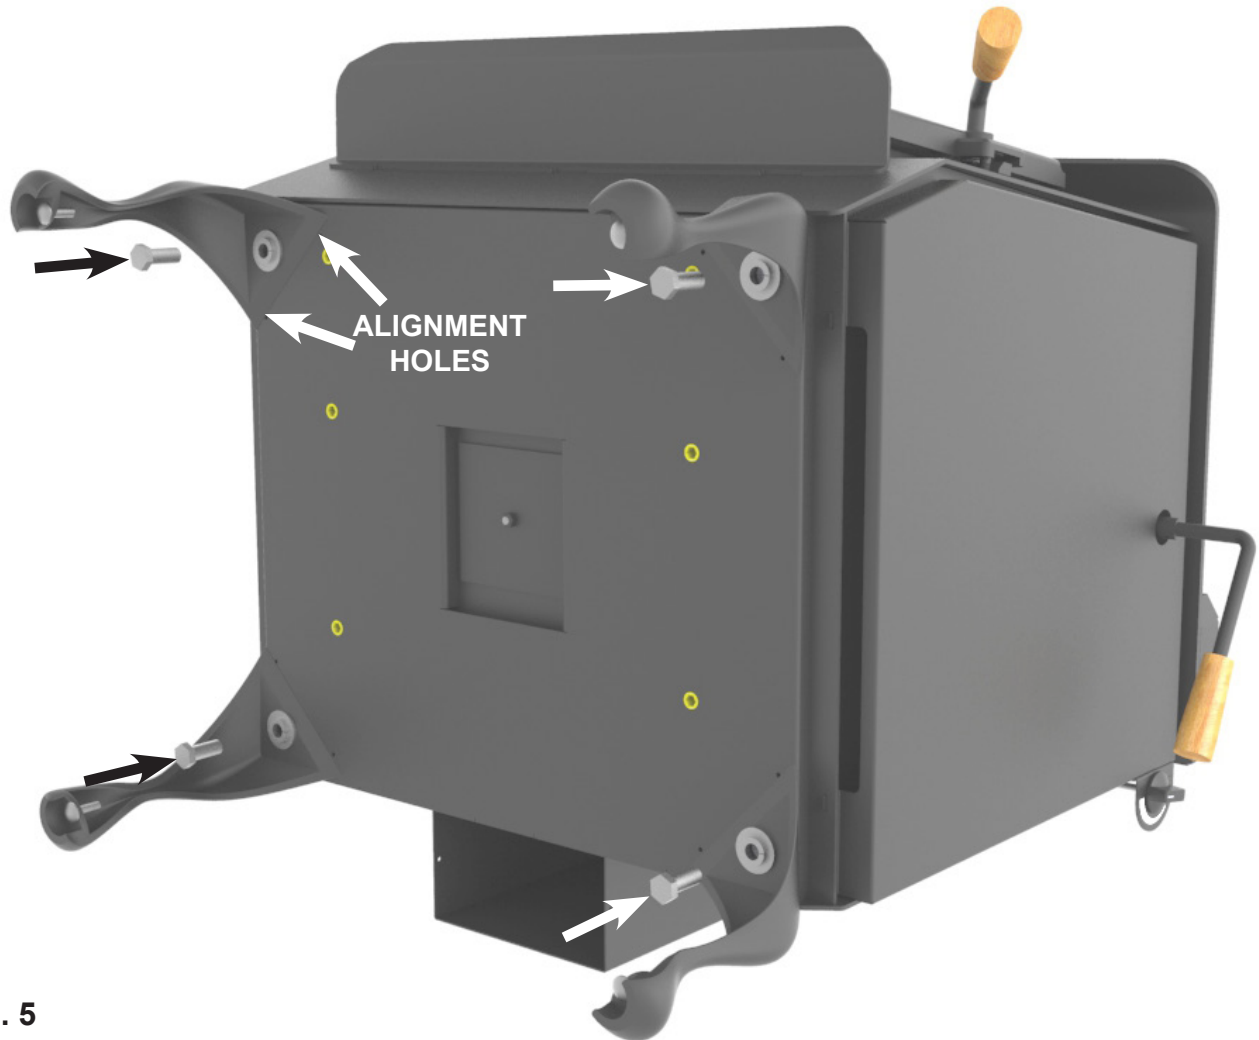

Fig. 5
- For S.Z4815 Classic Base Kit use #10 screws and shipping brackets (Fig.2) from the firebox crate to secure the stove to the floor. (Fig.5)
2. Position each leg accordingly, use alignment holes in base, fasten to stove using the 1/2" bolts and washers supplied with the parlor leg kit. (Fig. 5)